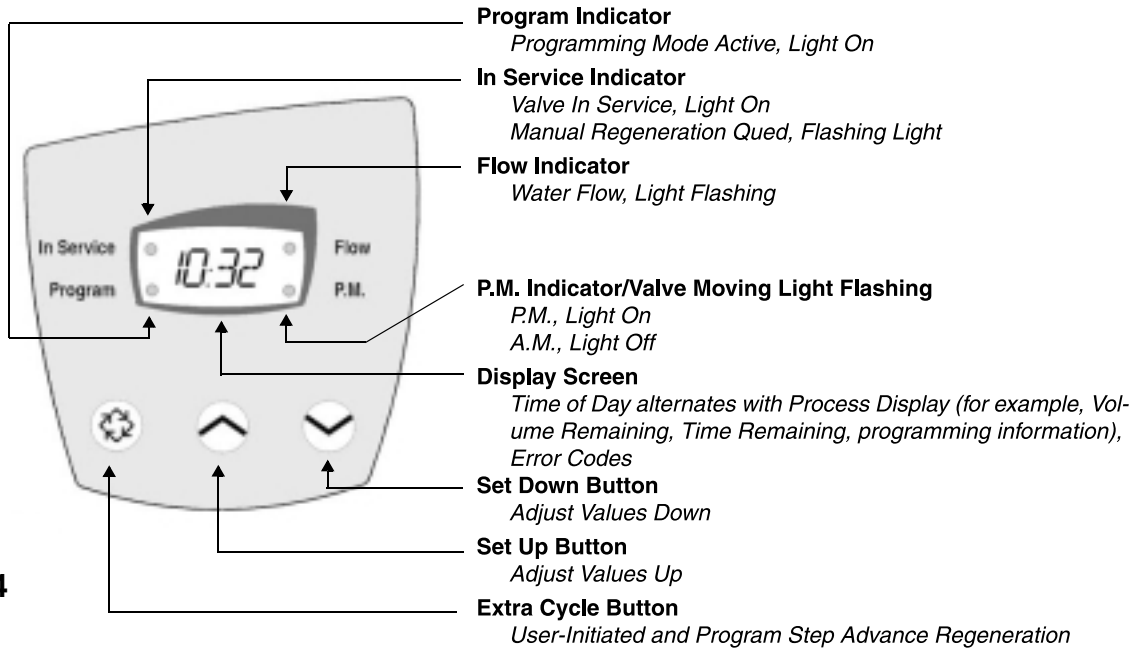

Figure 4
8. Plug the 24-volt transformer into a 120 VAC 60 Hz outlet. This valve has five positions: 1) Backwash 2) Brine/Rinse 3) Second Backwash (not used) 4) Rapid Rinse and 5) Brine Refill. When the valve is in the Service position, the *extra cycle* button (far left button as shown on Figure 4) must be pressed and held for 5 seconds before it activates. Press and hold the *extra cycle* button for 5 seconds to advance the valve into the “1” Backwash position. Slowly turn on the water supply and allow the unit to backwash until the air purges out of the tank and clears the system.